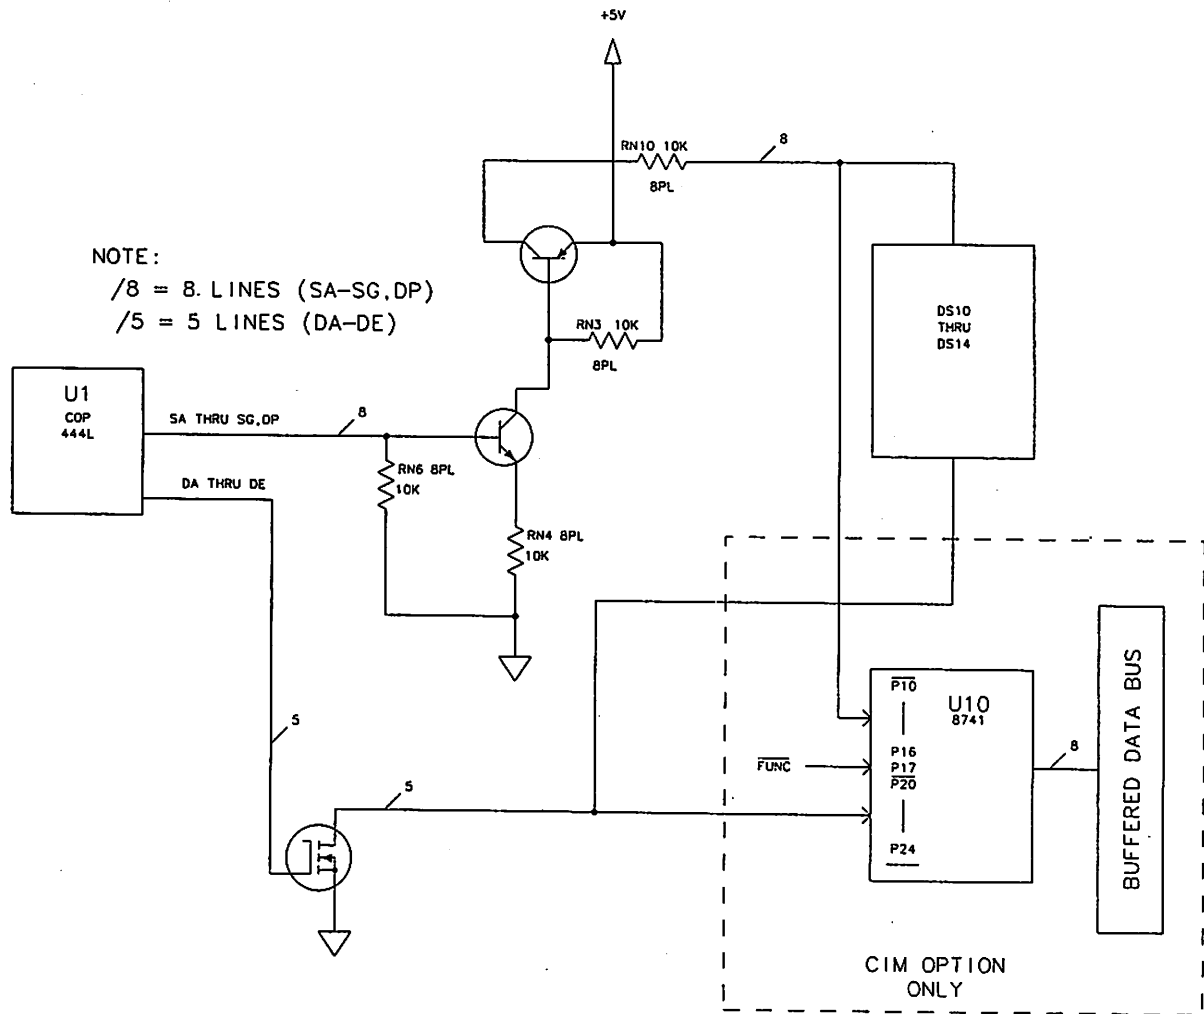

Figure 3-36. Temperature Display and Display Driver
3.10.6 Display and Display Driver (figure 3-36)